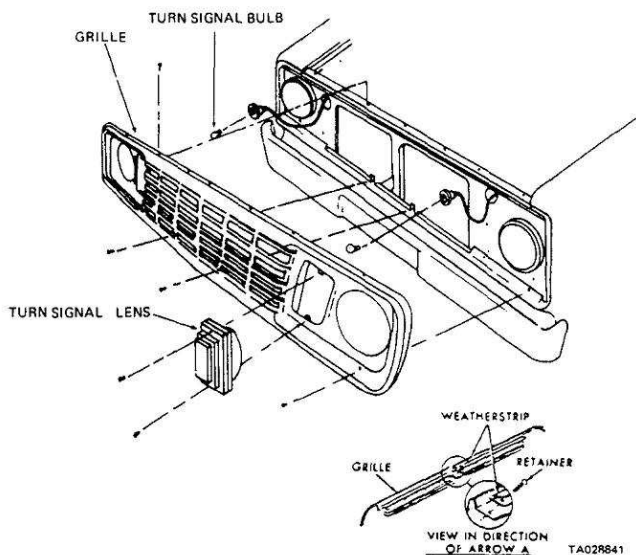

Figure 2-98.1. Grille Assembly (Models Manufactured After August 15, 1976).
- a. Removal.* Refer to figure 2-98.1.